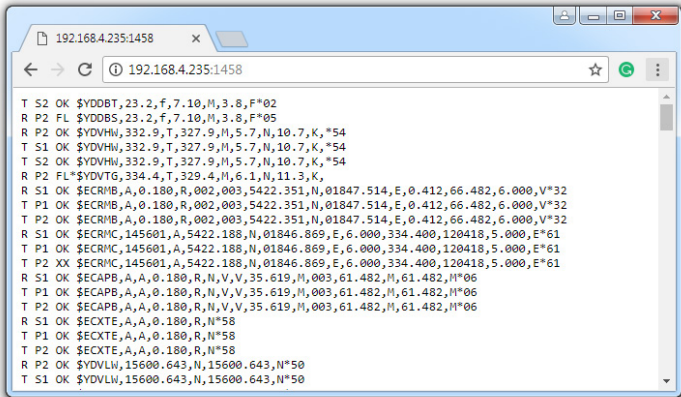

Figure 1. Chrome browser with log
The first character in the log line (see the Figure 1) indicates whether the sentence was received (R) or transmitted (T). P2 means physical port #2 and S1 means server #1. “XX” indicates overflow on this port (and this sentences was not actually sent), “FL” indicates that sentences was filtered out. Symbol * (asterisk) after “FL” indicates that sentence is invalid (and was filtered by this reason).